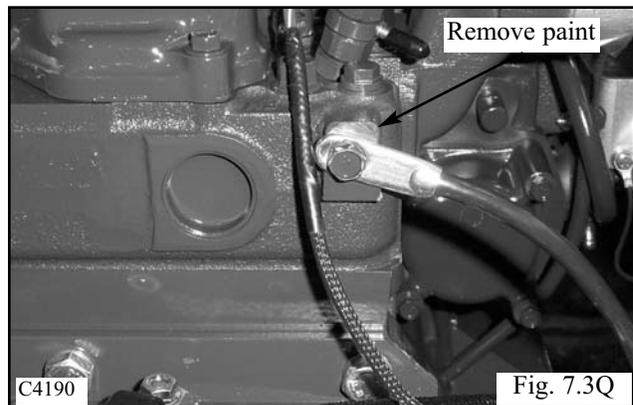

Fig. 7.3Q
- 4 Paint must be removed from the engine block where the ground strap is attach to the front of the engine. This will provide proper grounding of the engine with the loader chassis. (Fig. 7.3Q)